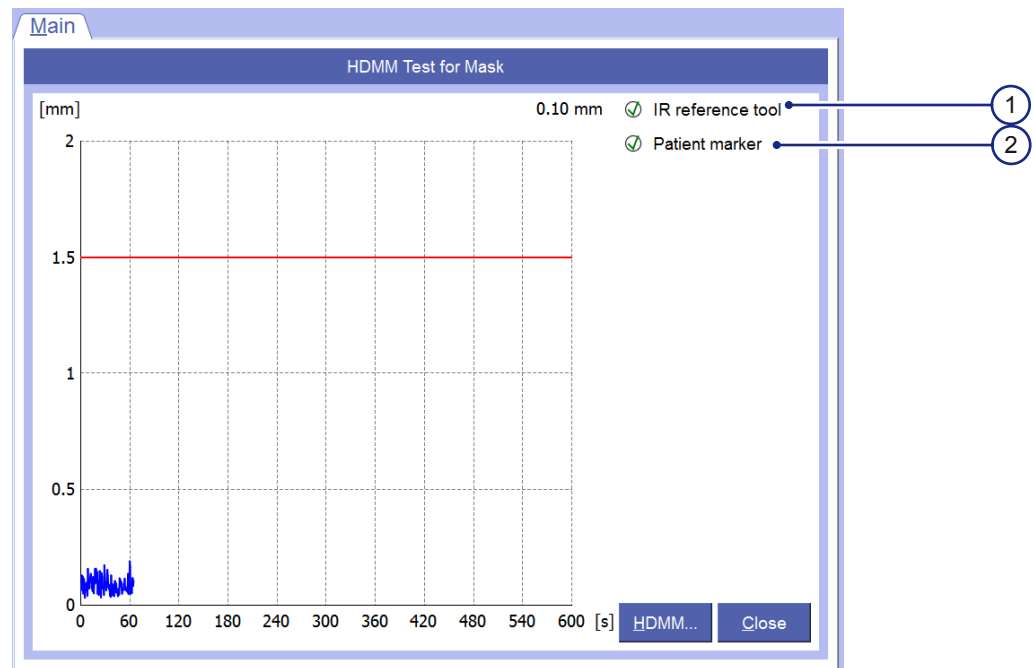

Figure 5.20 HDMM test view for mask
- 6 If the check mark for IR reference tool (1) or patient marker (2) does not appear (see Figure 5.20), do as follows: